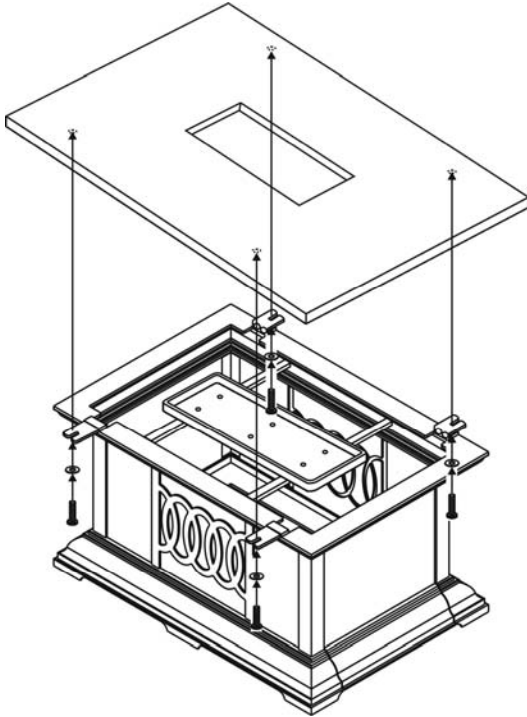

Figure 3
2. Place the tabletop on the base. Secure the tabletop to the firepit base using the bolts and washers that are provided. See Figure 3 and Figure 4.